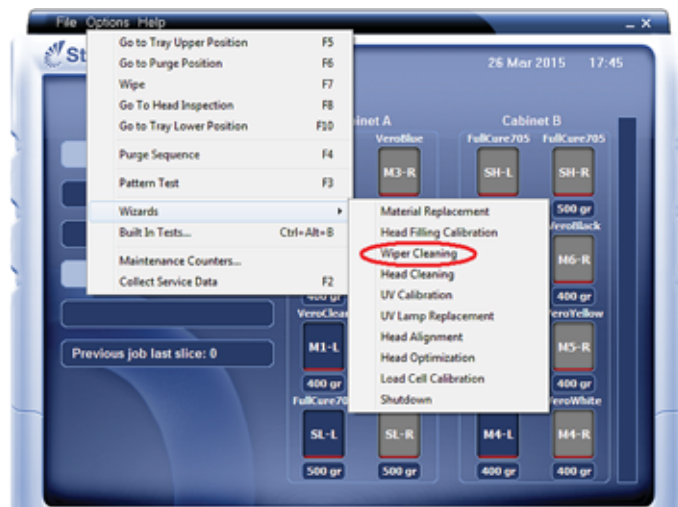

Figure 6-22: Starting the Wiper Cleaning wizard
2. Start the Head Cleaning wizard from the *Options* menu (see figure 6-22 on page 23).